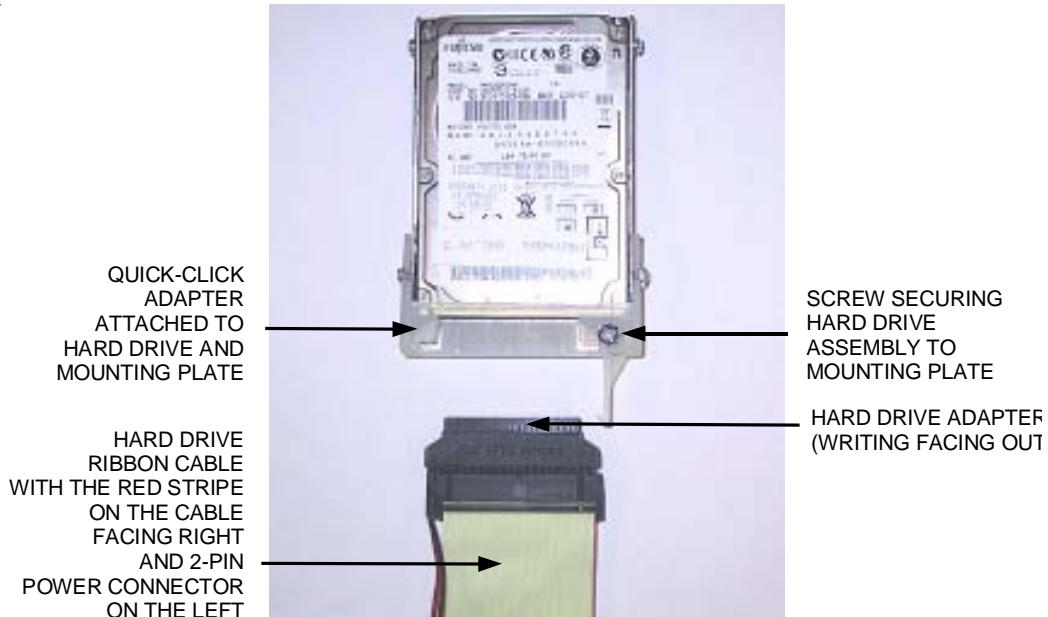

FIGURE 3 - QUICK-CLICK HARD DRIVE ASSEMBLY CONNECTION
2. Attach the hard drive ribbon cable on the electronics box to the supplied hard drive by lining up the left side of the hard drive adapter with the pins on the hard drive and then carefully inserting it all the way into the quick-click adapter (see Figure 3 for proper orientation).